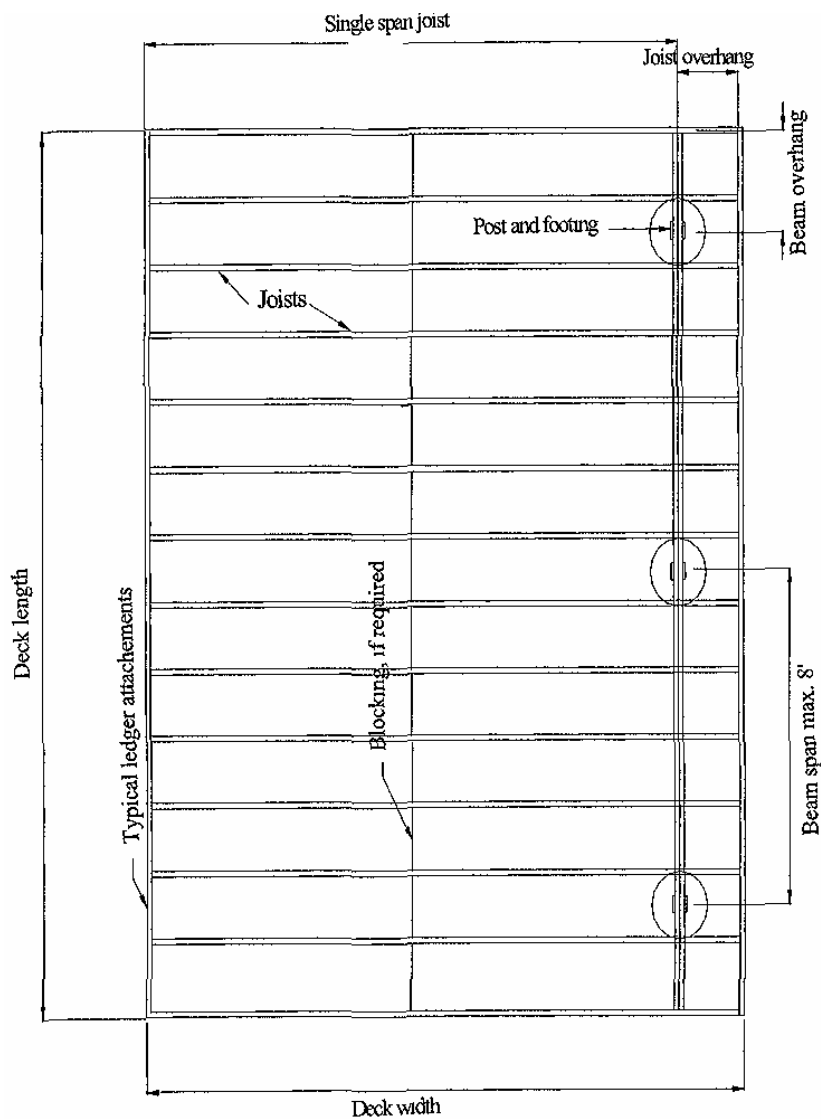

Figure 1: Framing plan for an attached deck
1. The use of this package, in lieu of construction plans, applies to **typical rectangular shaped decks** which are **single span, single level decks only** (Figure 1).